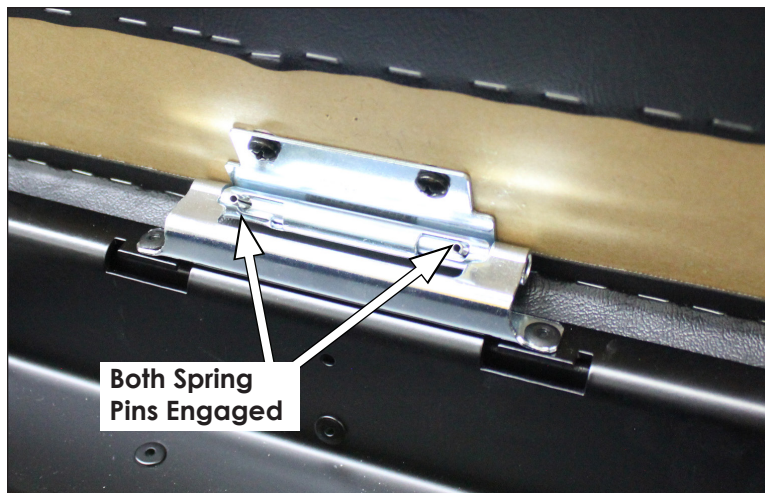

Figure 37: Top Pad Hinge
3. Use a small pick or screwdriver to engage both spring pins on each hinge and connect the pad to the table. Refer to **Figure 37**.